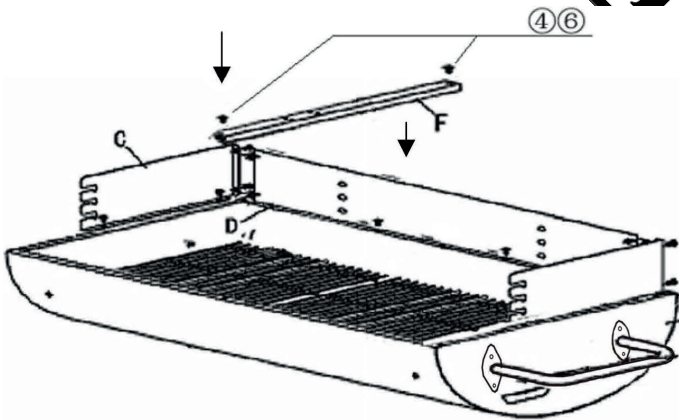

Fig. 5
7. Fix the grill support bar (F) to the middle of the fire bowl (H) using bolts (4) and nuts (6). **(Fig. 5)**